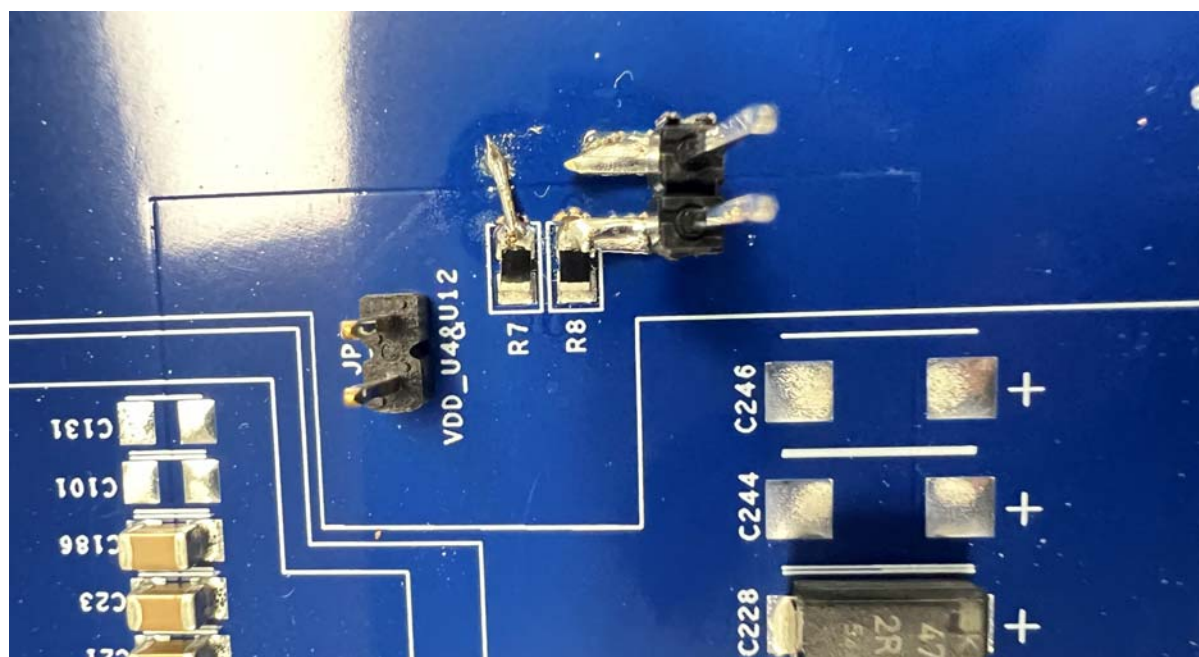

Figure 17. FB Sense Lines PCB Fix
- The original feedback regulation test point was not properly connected to where the ISL73849 FB sense lines were terminated to. As a result, there was an extra +10mV when measuring VOUT with TP29. To fix this the FB sense lines going from R8 to R26 to the VOUT and GND metal lugs (TERM3 and TERM4) were cut and R8 and R26 were re-connected to the nearest VOUT and GND plane. A surface mount 2 pin header was connected adjacent and is labeled TP29 for accurate monitoring of VOUT. Refer to Figure 17.